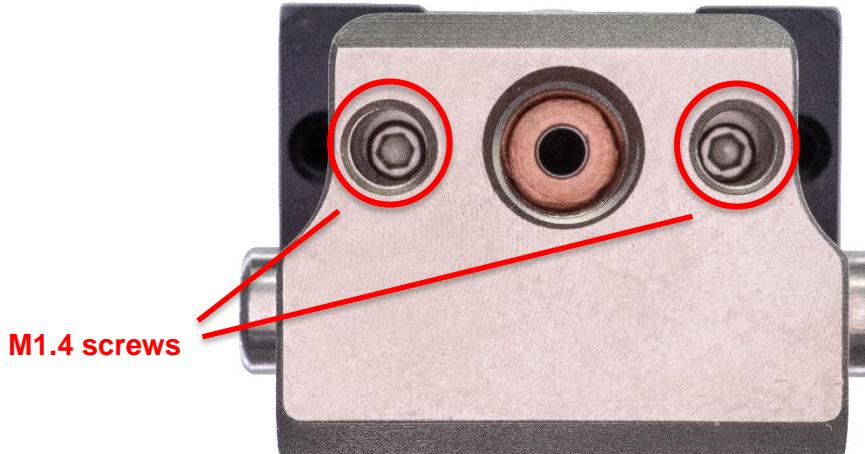

Figure 2. Bottom Face of Hot Block
2. Use the 1.27 mm hex key to remove the M1.4 socket head cap screws in the bottom of the hot block (Figure 2).